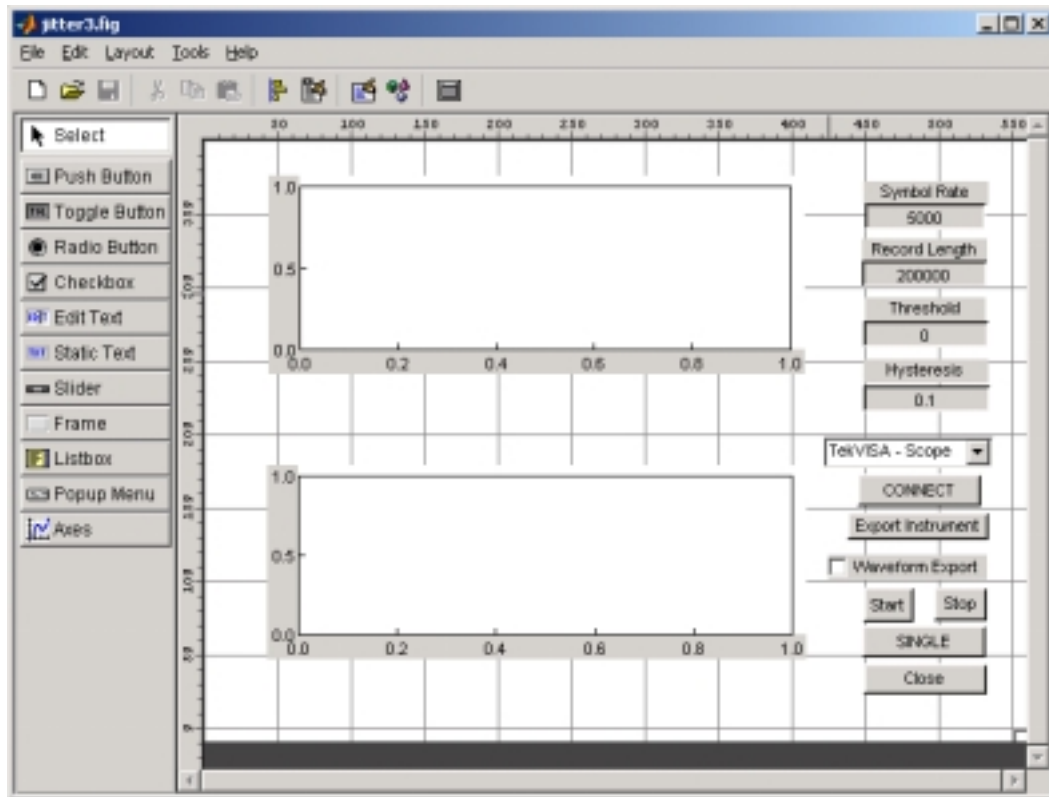

Figure 49: Building a GUI using the MATLAB guide utility
2. Select the **Static Text** tool from the toolbar and place labels for various GUI components (**Symbol Rate**, **Record Length**, **Threshold**, and **Hysteresis**) on the right side of the canvas, as shown in Figure 49.
6. Using the Property Inspector, change the String property for each of these edit boxes to the initial values shown Figure 49 and Table 31.
7. Select the **PopUp Menu** control from the toolbar and create a popup menu as shown in Figure 49.
10. Select the **Push Button** control from the toolbar and create six buttons, sized and positioned as shown in Figure 49.
11. Select the **Checkbox** control from the toolbar and create a check box as shown in Figure 49.
13. Using the Property Inspector, change the String property for each of these controls to the initial values shown in Figure 49 and Table 31. These are the labels that will appear on these controls in the GUI.
14. Select the **Axes** control and place two Axes objects on the left side of the canvas as shown in Figure 49. Leave their properties unchanged.